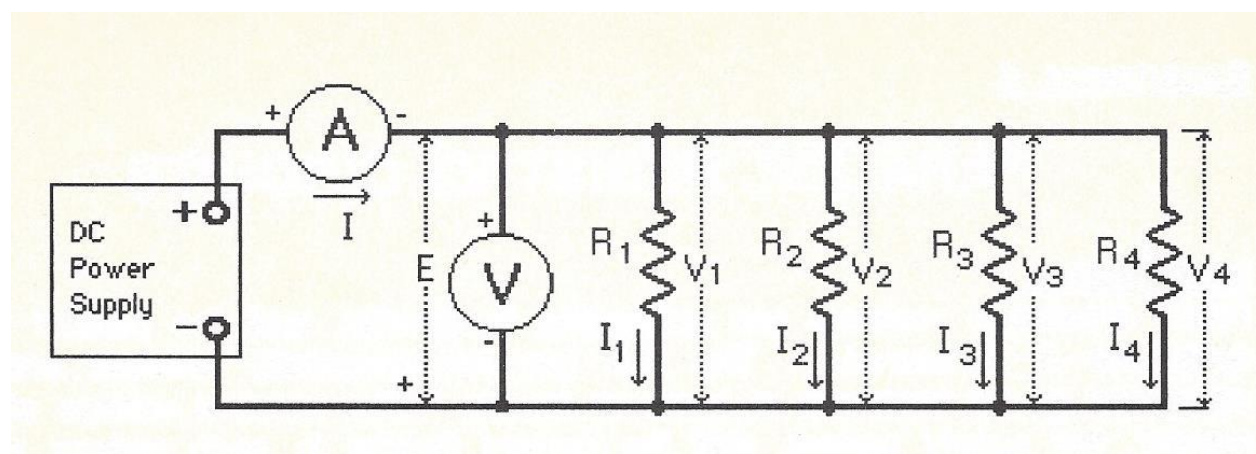

Figure 2
4. Connect the instruments and resistors as shown in Figure 2 and adjust the Power Supply to give $E = 24 \text{ V}$.